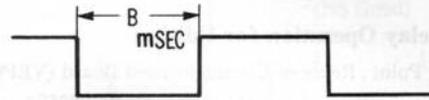

Fig. 49
6. In the condition of item 4, measure the buzz sound voltage (A) Vp-p of TP43.
8. In the condition of item 7, connect an oscilloscope to TP65.
9. Measure the waveform (B) msec. as shown in Fig. 49.